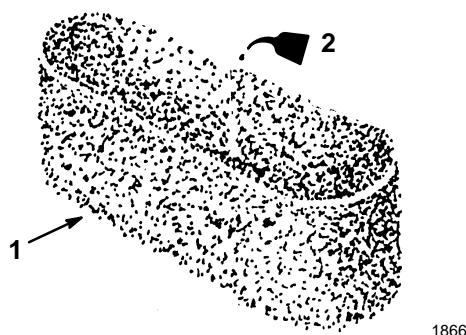

Figure 31
- C. Put one or two ounces of oil on the element (Fig. 31). Squeeze the element to distribute the oil.